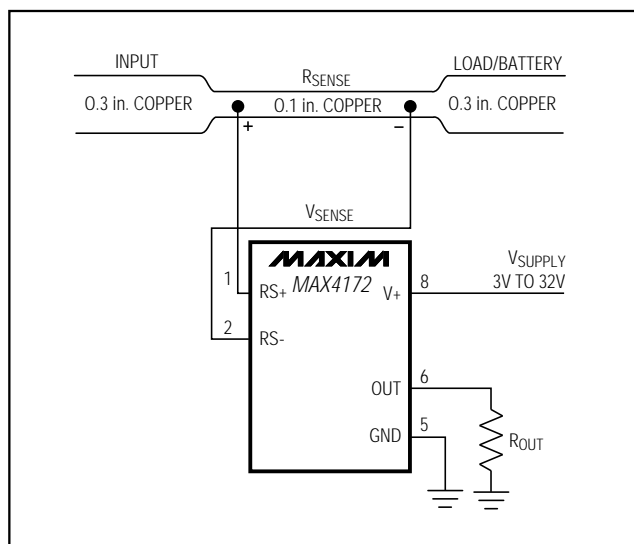

Figure 2. MAX4172 Connections Showing Use of PC Board
- Cost:** If the cost of  $R_{SENSE}$  is an issue, you might want to use an alternative solution, as shown in Figure 2. This solution uses the PC board traces to create a sense resistor. Because of the inaccuracies of the copper resistor, the full-scale current value must be adjusted with a potentiometer. Also, copper's resistance temperature coefficient is fairly high (approximately 0.4%/°C).
In Figure 2, assume that the load current to be measured is 10A, and that you have determined a 0.3-inch-wide, 2-ounce copper to be appropriate. The resistivity of 0.1-inch-wide, 2-ounce (70 $\mu$ m thickness) copper is 30m $\Omega$ /ft. For 10A, you might want  $R_{SENSE} = 5\text{m}\Omega$  for a 50mV drop at full scale. This resistor requires about 2 inches of 0.1-inch-wide copper trace.